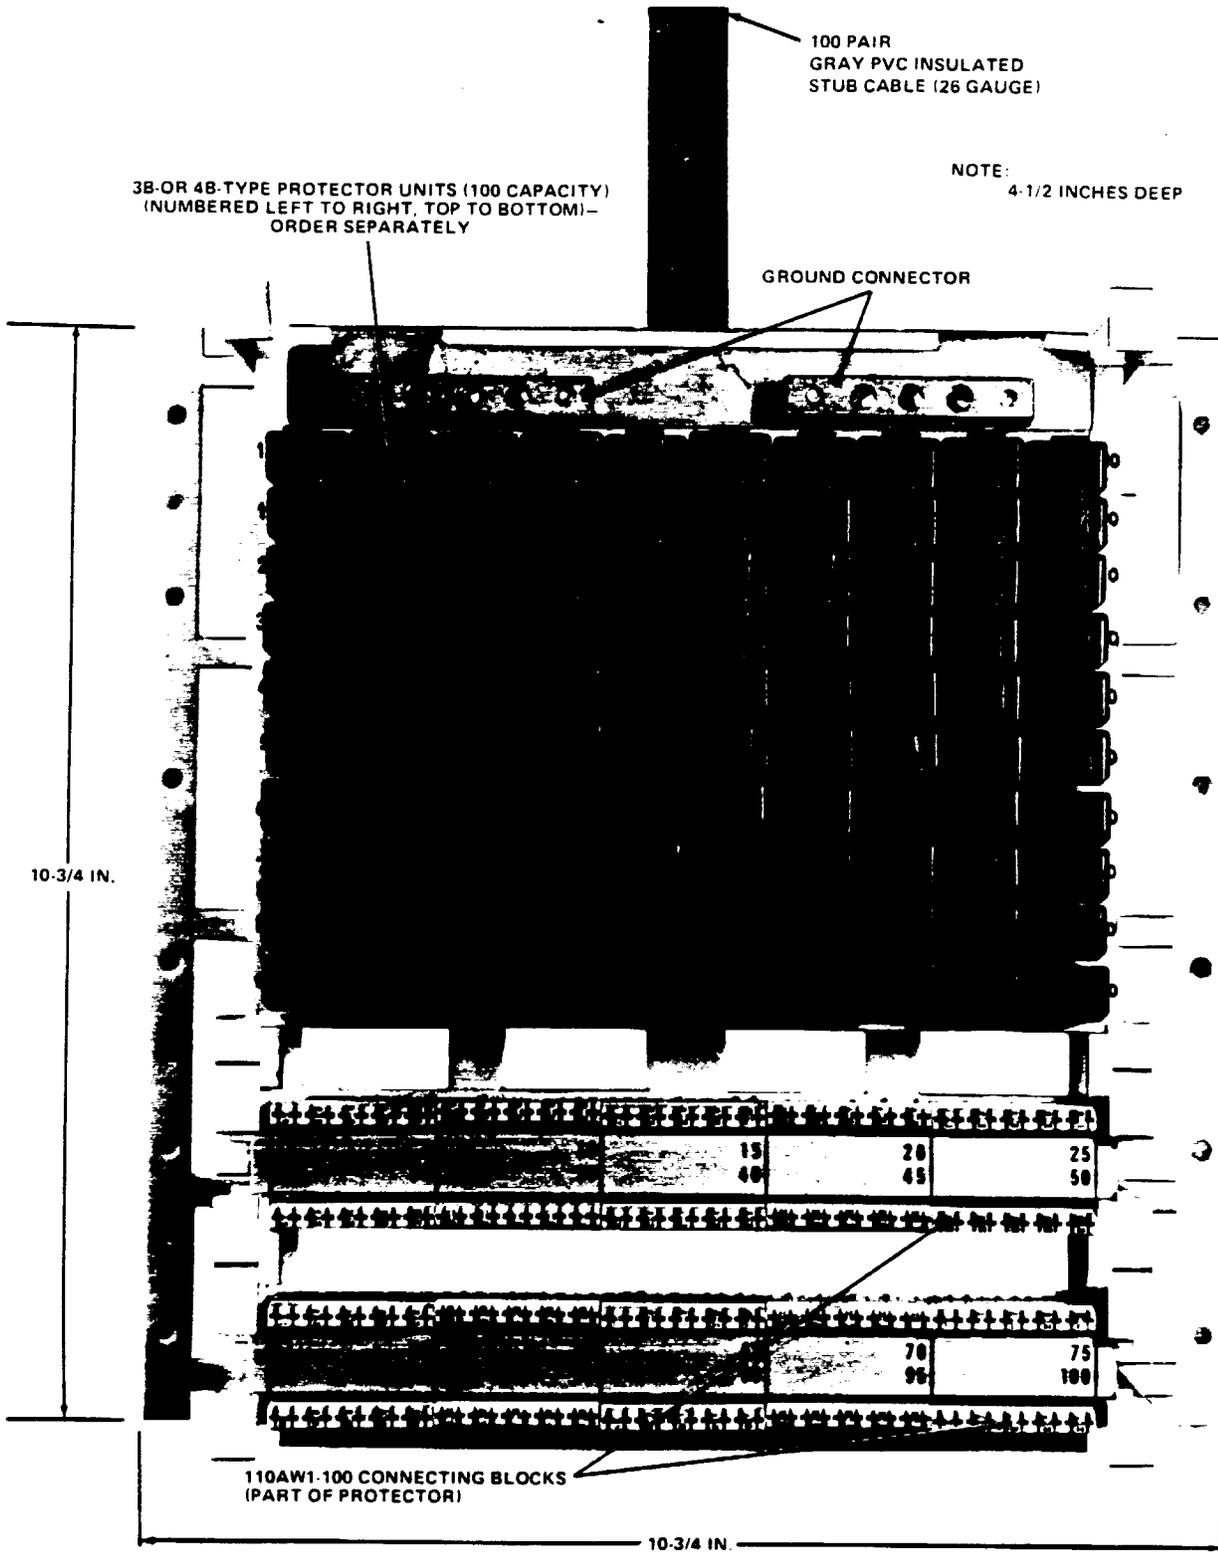

Figure 9—188-Type Modular Protector
3.15 The 188-type modular protector (Figure 9) is a combination protector and terminating field intended for use with the 88-type connection hardware. It provides electrical protection at building